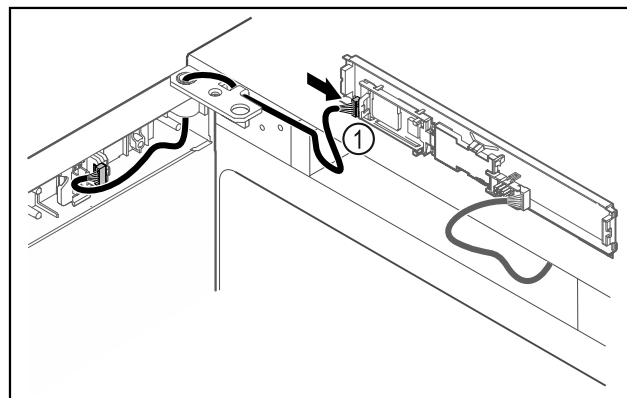

Fig. 42
- Connect the plug Fig. 42 (1) to the circuit board.